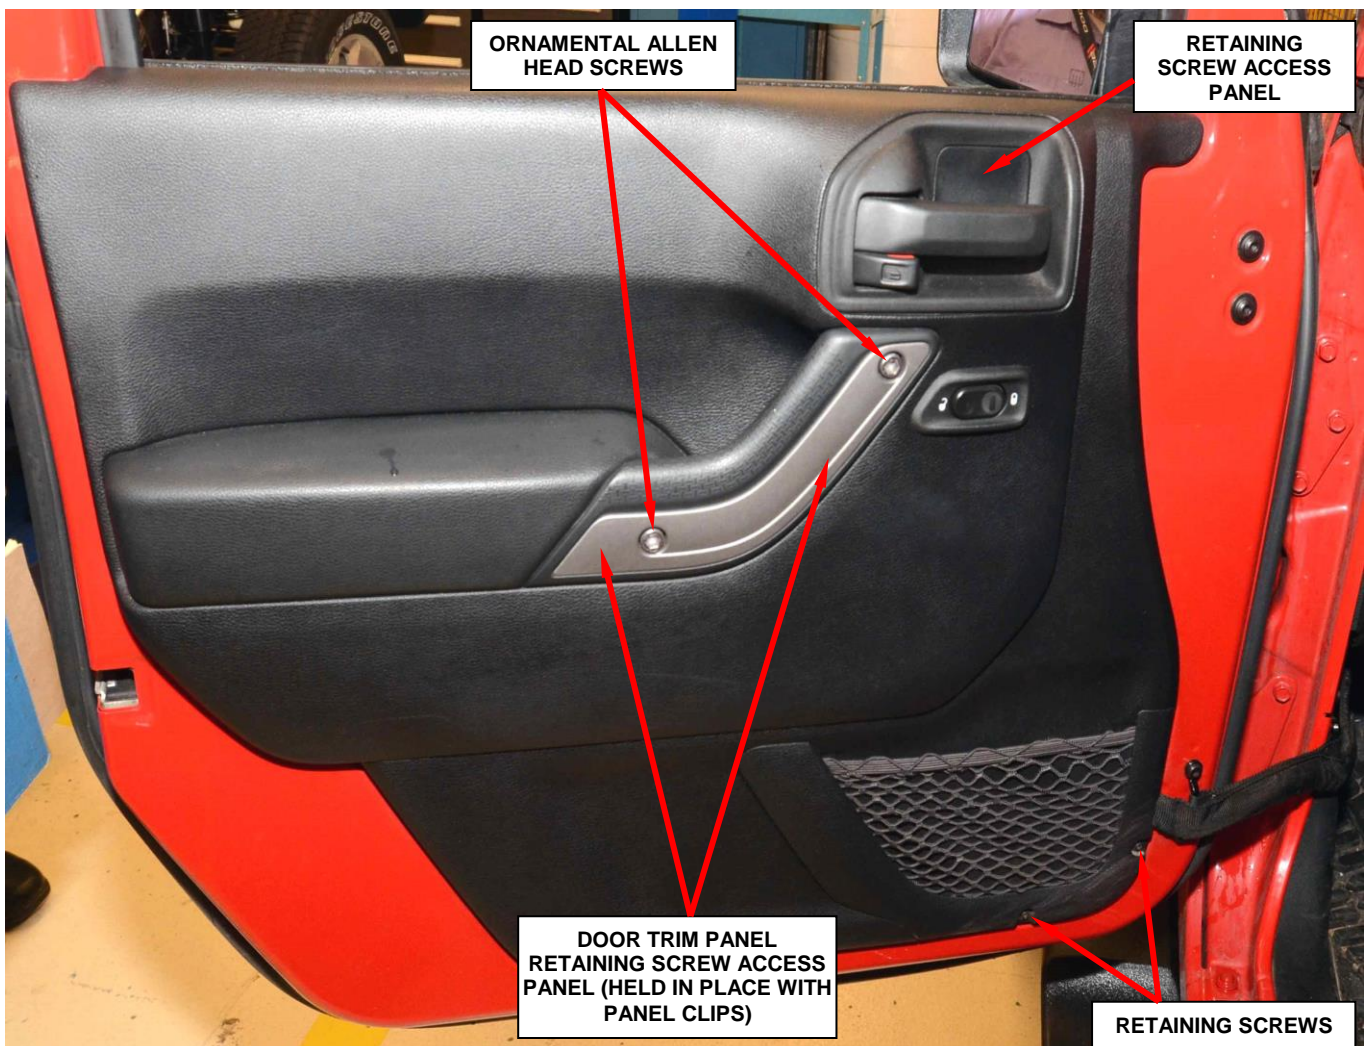

Figure 1 – Interior Door Trim Panel
4. Remove and save the interior door trim panel (Figure 1).